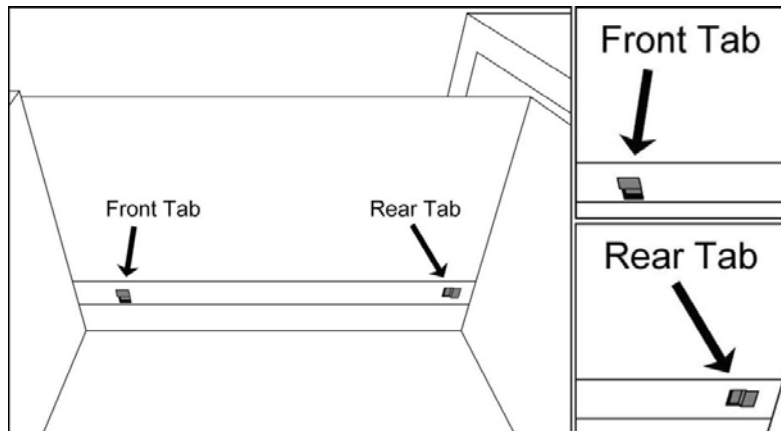

Fig. 1
2. Grasp front of drawer on each side and lift to release front tabs of slides from drawer. (Fig. 1)
3. Place one hand underneath the drawer for support and pull one slide forward to release the rear tab.(Fig. 1), repeat for other slide